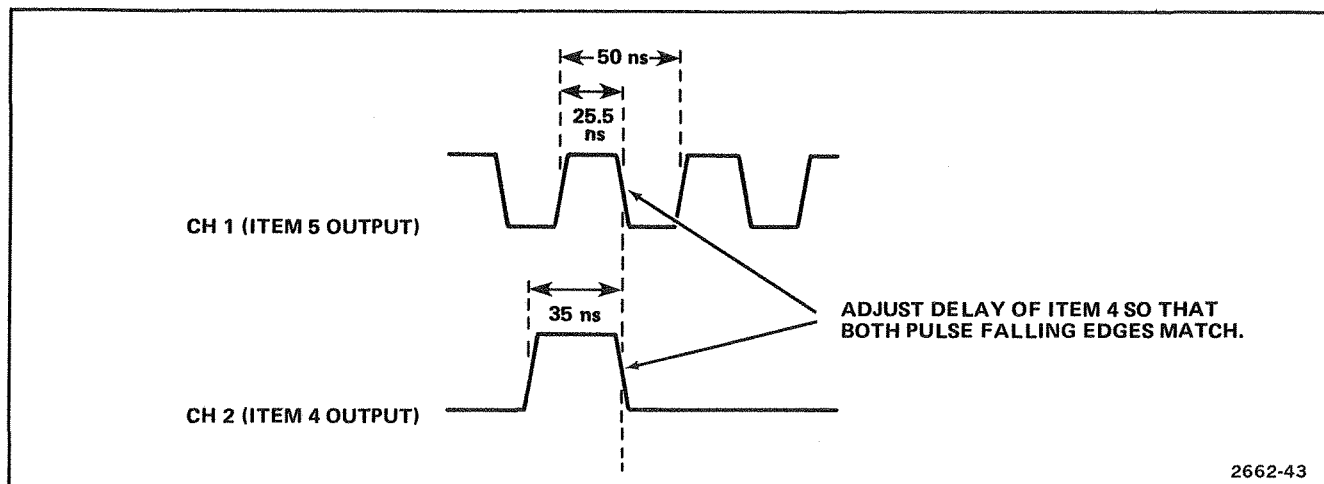
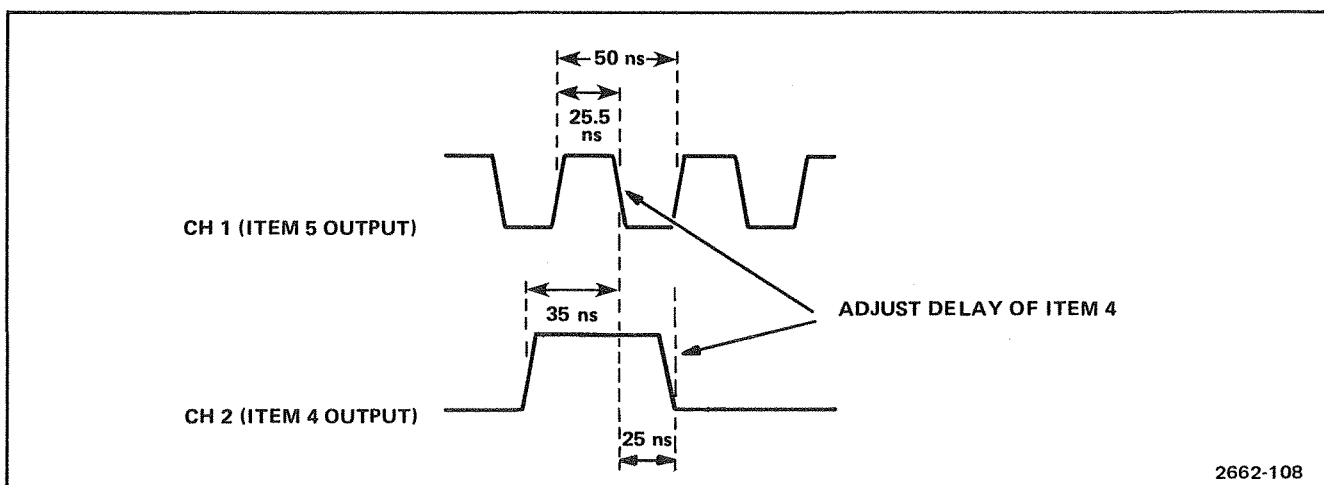

Figure 4-9A. Adjusting pulse generators outputs for trigger delay counter check.
Figure 4-9B. Adjusting pulse generators outputs for checking Clock Qualifier Operation.
Delay Time Adjust as shown in Figure 4-9A	Delay Time Back termination switch pulled out
i. Set test equipment as in part f, except refer to Fig. 4-9B. rather than Fig. 4-9A.